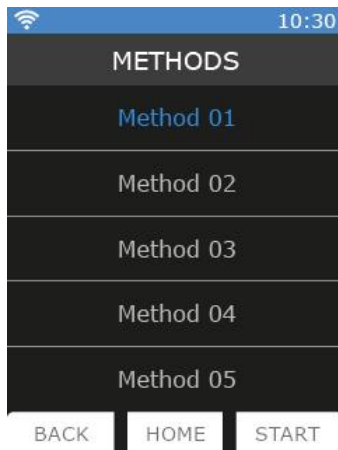

Figure 9. Methods
Display	➤ It allows for brightness to be set or if torque and temperature should be displayed on the main screen. ➤ Enter in the menu and scroll with speed control knob (C). Click to enter in submenus. ➤ Brightness: enter in this submenu, rotate speed control knob (C) to select the desired brightness value. Click to confirm. ➤ Brightness can be set by 10% steps. ➤ Torque: enter in this submenu, rotate speed control knob (C) to choose between ON or OFF if the display of torque on the main screen is desired or not. Click to confirm. ➤ Temperature: enter in this submenu, rotate speed control knob (C) to choose between ON or OFF if the display of temperature on the main screen is desired or not. Click to confirm ➤ If torque and temperature are displayed on the main screen, the display menu appears as in Figure 18. ➤ When temperature is displayed but Pt100 probe is not inserted in the instrument, the main screen appears as in Figure 19.  Figure 9. Torque and temperature shown  Figure 10. Main without temperature probe